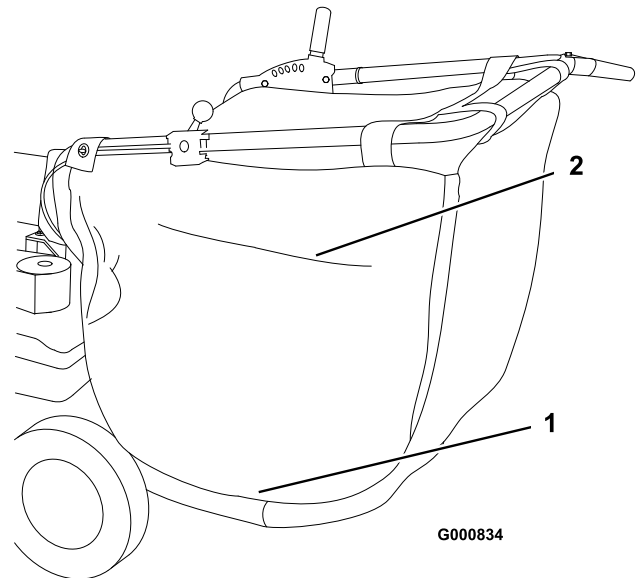

Figure 19
3. Unzip the side of the bag and dump the contents (Figure 19).
The bag has a zippered vent (Figure 19). When vacuuming an area which is basically free of dust, open the side vent should be open to allow free movement of air. When vacuuming a dusty area, close the vent.